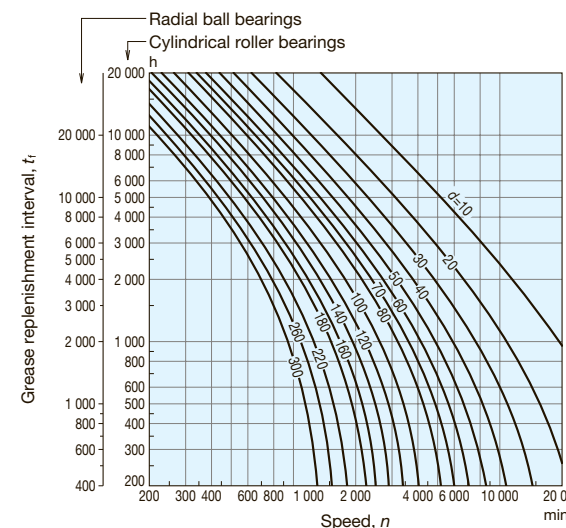

Fig. 23 Grease Replenishment Intervals for Radial Ball Bearings, Cylindrical Roller Bearings
Assuming that the greases are used under normal operating conditions, refer to Figs. 23 and 24 on page 16 concerning replacement time intervals.
**Figs. 23 and 24** are the guidelines of replenishment time interval for the condition of high-quality lithium soap-mineral oil grease, bearing temperature of 70°C, and normal load ( $P/C=0.1$ ). If the bearing temperature exceeds 70°C, the replenishment time interval must be reduced by half for every 15°C temperature rise of the bearings. Also, the replenishment time interval depends on the magnitude of the bearing load, and it should be used by multiplying Load factor shown in table 9.
(For example, high-quality lithium soap-synthetic oil grease may extend about two times of replenishing time interval shown in **Figs. 23 and 24**.)
The lubrication performance of grease declines by the emulsification or the deterioration due to intrusion of foreign matter or water. Therefore, if the bearing is used in such harsh conditions, it is necessary to shorten the replenishment time interval in **Figs. 23 and 24** by a half to a tenth.